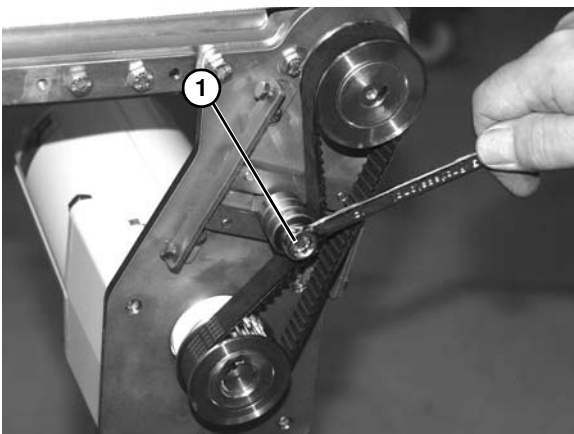

Figure 62
2. Loosen tensioner (**Figure 62, item 1**).